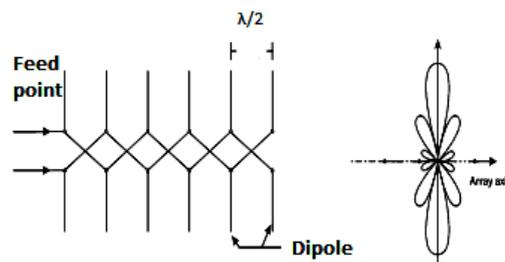

Fig.1.30 Broadside array Radiation pattern of Broadside array
- ❖ It is strongly directional at right angles to the plane of the array. The arrangement and radiation pattern are shown in Fig. 1.30